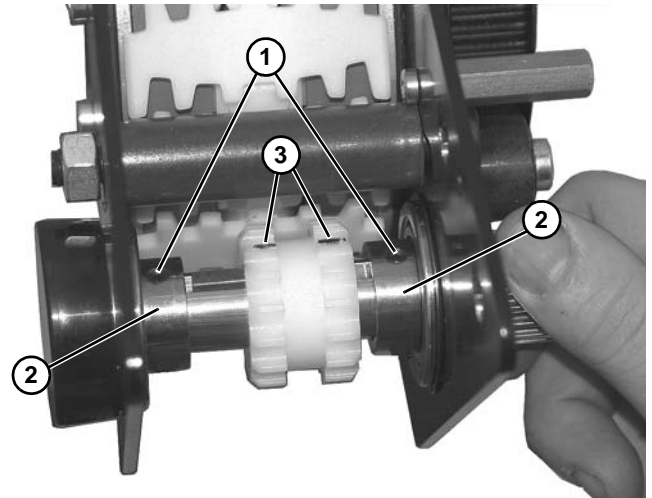

Figure 151
14. Loosen two set screws (Figure 151, item 1) on two bearings (Figure 151, item 2).
15. Loosen sprocket set screws (Figure 151, item 3).